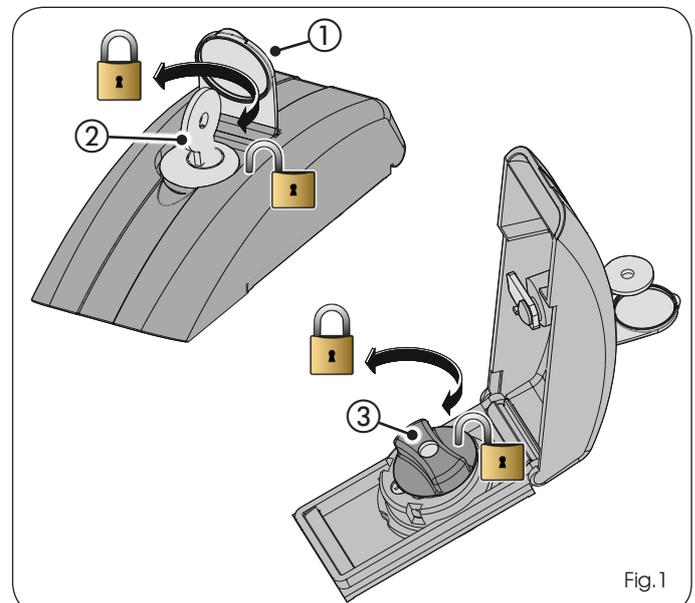

Fig.1
1) Lift the protection lid (Fig.1, ref. ①) and insert the key in the lock (Fig.1, ref. ②).
2) Turn the key 90° clockwise to open the cover and lift it.
3) Turn the release knob (Fig.1, ref. ③), anticlockwise until it stops.